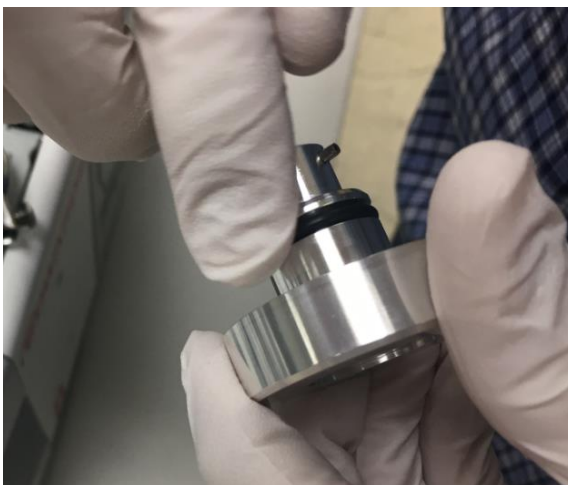

Figure 7: Applying oil to the small O-ring on the metal gas ballast adapter
- b. Use a gloved finger to apply a small amount of Apezion vacuum grease to the O-ring. If Apezion vacuum grease is unavailable, use a drop of vacuum pump oil instead. See Figure 7.